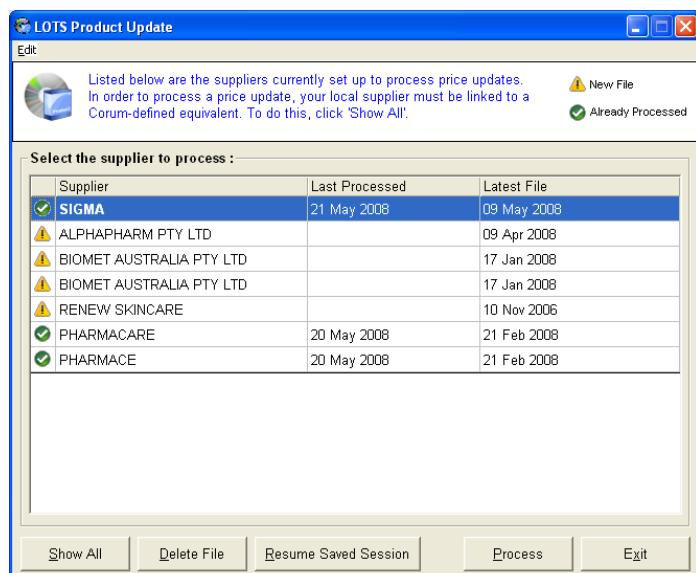

Figure 255
- After selecting 'Close' you will be returned to the 'LOTS Product Update' window. The window will always show the primary supplier in bold and at the top of the list. The other suppliers will be shown in alphabetical order (see Figure 255).